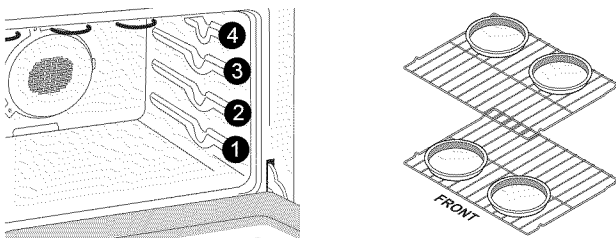

Figure 25: Rack positions and pan spacing recommendations
- For best results when baking cakes using two flat oven racks, place racks in positions 1 and 3 as shown in Figure 25. For the Glide rack, set one position lower (position 2) and use offset rack in position 1. Allow at least 2 inches (5 cm) of space between bakeware for proper air circulation.